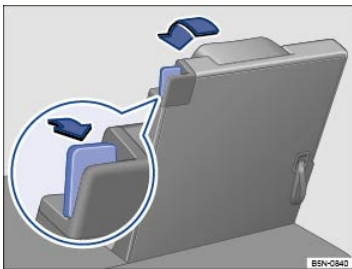

Fig. 80 In the third row: Lever to release the third row seat backrest.
- From the trunk, pull the release lever ⇒ Fig. 80 toward you (arrow in lever magnified view) to unlock the third row seat backrest.